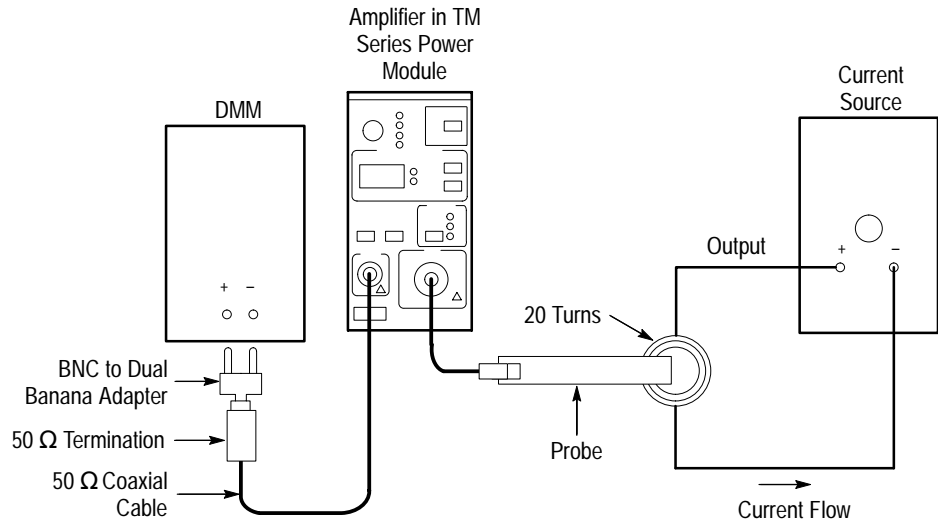

Figure 5-3: DC Gain Accuracy Test Setup for A6312
2. Connect the current loop to the current source as shown in Figure 5-3.